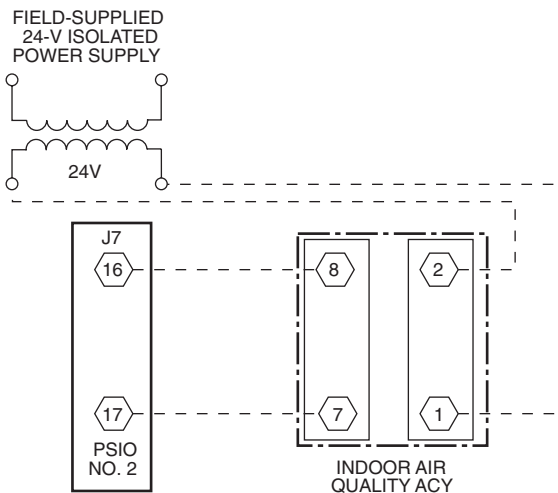

Fig. 93 — Indoor-Air Quality
- Indoor air quality (Fig. 93)